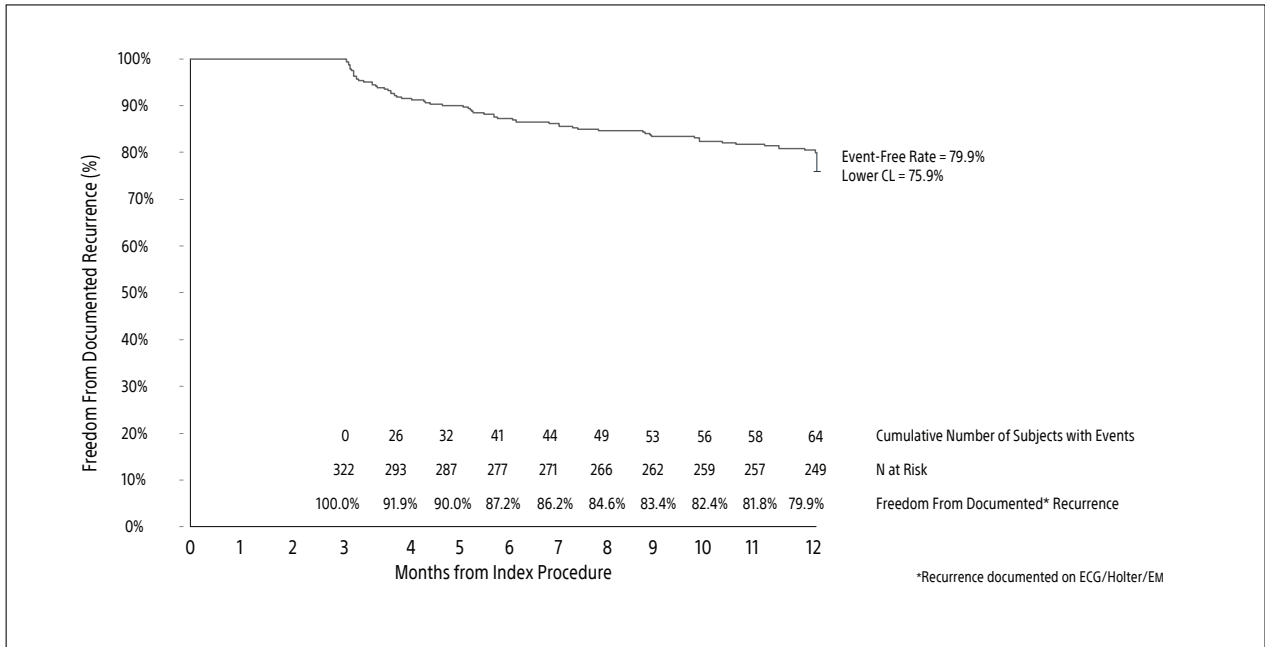

Figure 7. Freedom from Documented Recurrence
Freedom from arrhythmia recurrence is clinically important. Figure 7 shows the recurrence free rate of individual atrial arrhythmia types as documented on a rhythm monitoring device post-blanking period. Other protocol defined primary effectiveness failures (e.g., AAD failures, acute procedural failure) were not considered in this analysis. Overall, the freedom from documented arrhythmia recurrence, including atrial fibrillation (AF), atrial flutter (AFL), and atrial tachycardia (AT), was 79.9%. Atrial Fibrillation was the most common documented arrhythmia recurrence with an AF recurrence free rate of 82.7%.